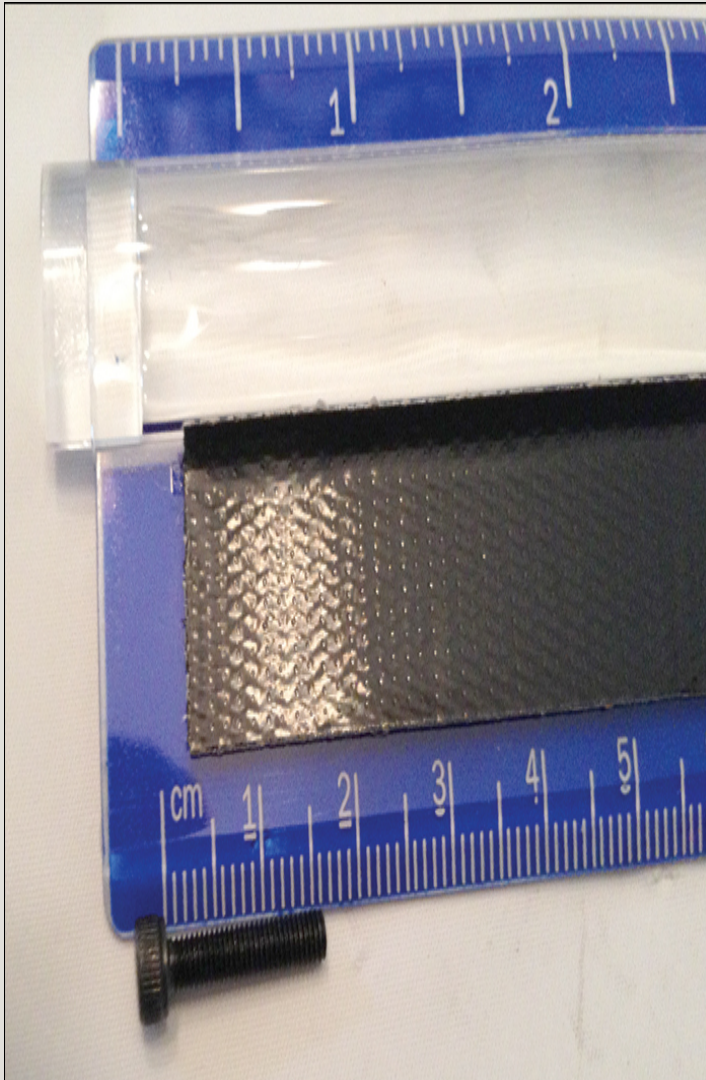

Figure 3.6 Use a ruler to verify the lengths of a bolt.
- Use a ruler (see Figure 3.6) to verify the length of all the bolts and pieces you'll be using. Many of the small M3 bolts that come with the Simple differ in length only by 5mm. Even better, open the bag of bolts and separate them into cups or baggies by size. It'll save you frustration when you're in the middle of your build.